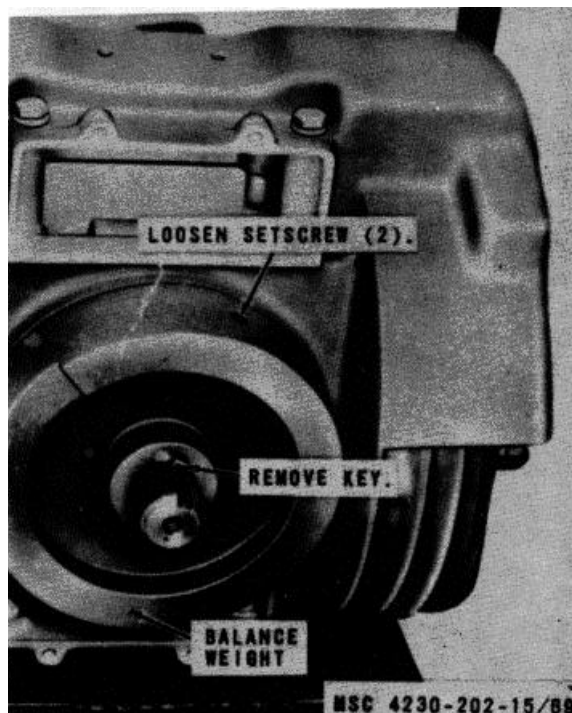

Figure 6-4. Compressor balance weight, removal and installation
- (1) Remove the compressor scroll (para. 3-55).
- (2) Remove the blower wheel (para. 3-57).
- (3) Refer to figure 6-4 and remove the compressor balance weight.
- (1) Refer to figure 6-4 and install the balance weight.
- (2) Install the blower wheel (para. 3-57).
- (3) Install the scroll (para. 3-55).